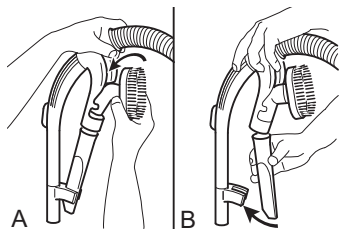

Fig.10
- Push the 2-in-1 combi-nozzle into the accessories mount (Fig. 10/A).
- Push the crevice nozzle onto the accessories mount and attach it so it clicks audibly and noticeably into place (Fig. 10/B).